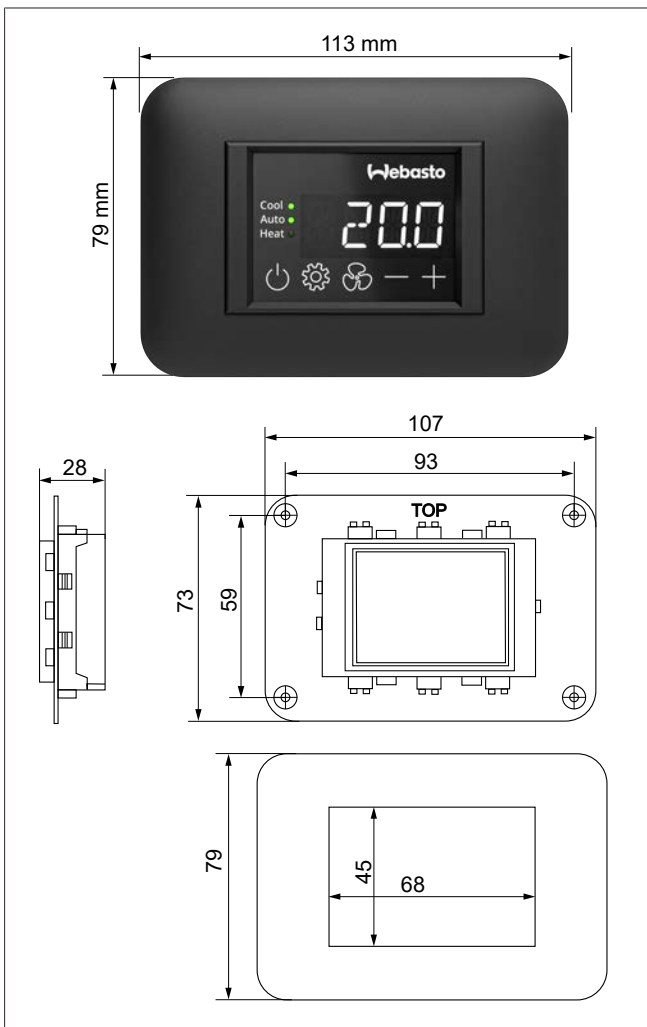

Fig. 10 Installing the control element
1. Make the cutout for the control element in the required position. For cut-out dimensions see Fig. 10.